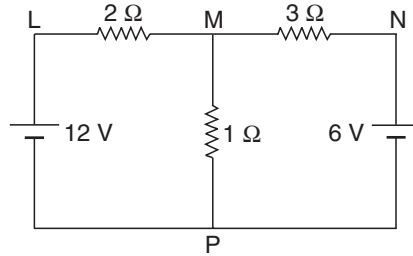

Fig. 66
28. Determine the currents through various resistors of the circuit shown in Fig. 66.